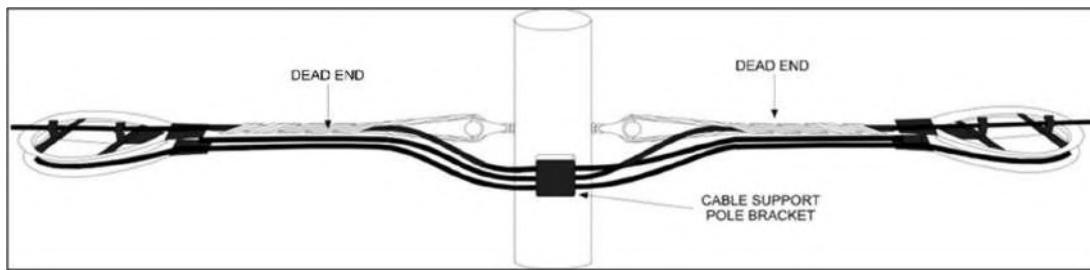

Figure: 1 – Cable Slack Storage
- g. All slack cable storage locations require the installation of slack cable storage brackets. The strand cable storage bracket insures a proper bending radius for the stored fiber optic cable and provides for horizontal storage and tiering for storage of multiple cables and loops. Figure 1 below illustrates slack cable storage.